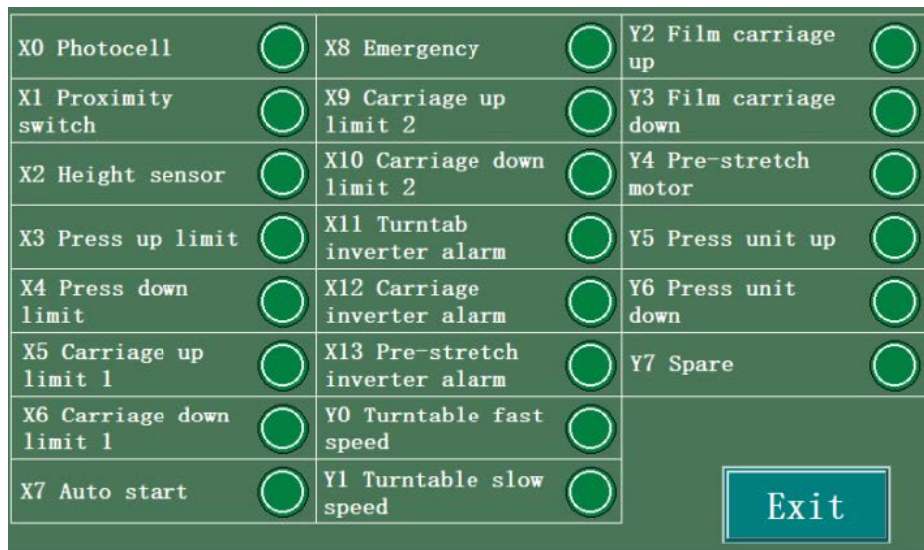

Figure 10 I/O display
- You can check the status of all sensors and switches on the I/O interface shown in Figure 10. This display can be used for routine maintenance on the machine. (See Figure 10))